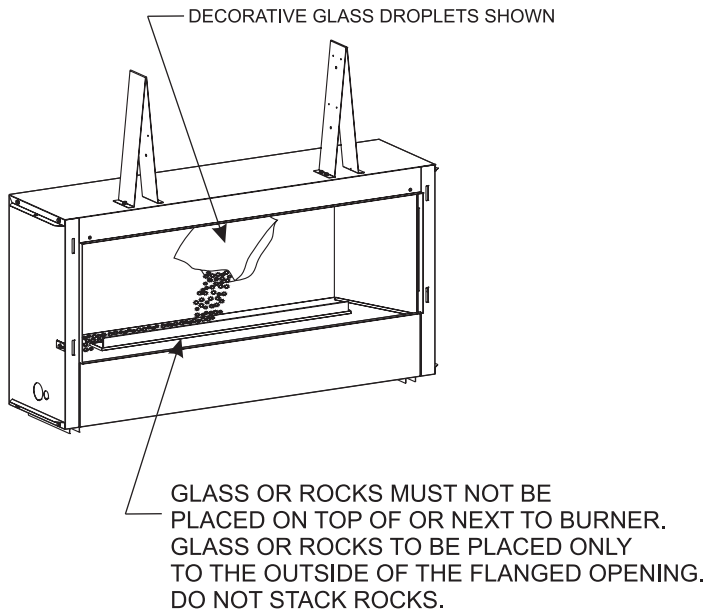
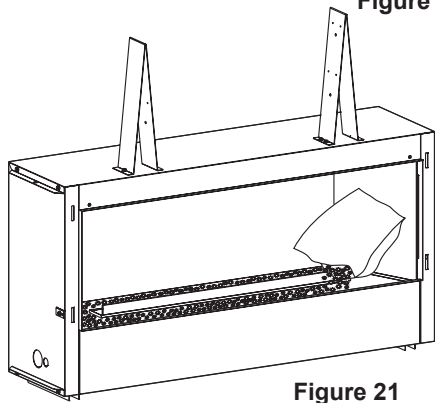

Figure 20
Figure 21
2. To install the Decorative Glass, cut off a corner of the plastic bag and proceed to apply the glass to the rear shelf on the Loft burner (area behind the burner). Apply only enough glass to the Top Cover to cover the black metal surfaces. Do not allow the glass to fall around the burner tube. See Figures 20 to 22. Apply the remaining decorative glass to the front sloped surface of the Top Cover. Start by placing the glass along the front edge of the top cover, then gradually place the glass around the top until completely covered. Do not allow the glass to fall around the burner tube. See Figure 21.